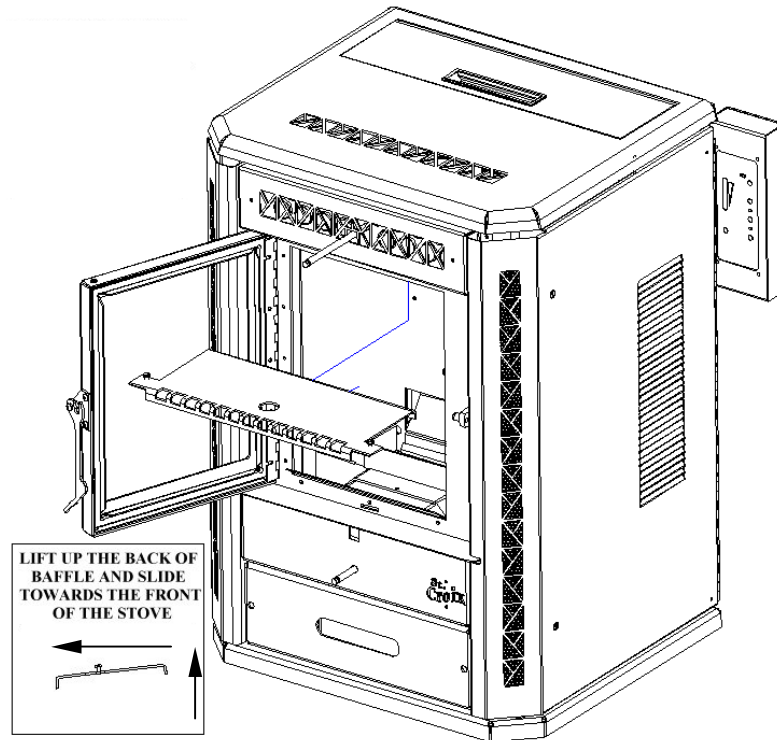

Figure 11
4. **Heat Exchange Baffle.** Remove the baffle and clean the ashes that accumulate on a regular basis. Once a month or sooner, depending on the quality of fuel being used (See Figure 11 on Page 18)
Figure 11 shows how the baffle is removed from the Stove. Clean the baffle on a regular basis. Frequency of cleaning depends on amount of fuel being burnt and the quality of the fuel. **Failure to clean the Baffle can cause the stove to become plugged with Fly Ash.**